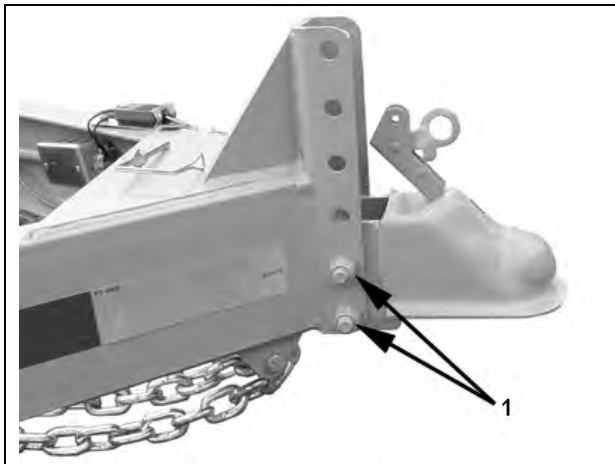

Figure 4-13 – Adjust Hitch Height
- Remove the lock nuts (1) and cap screws on hitch. **Discard** lock nuts. See figure 4-13.
- Install cap screws and **NEW** lock nuts (A). See figure 4-13.